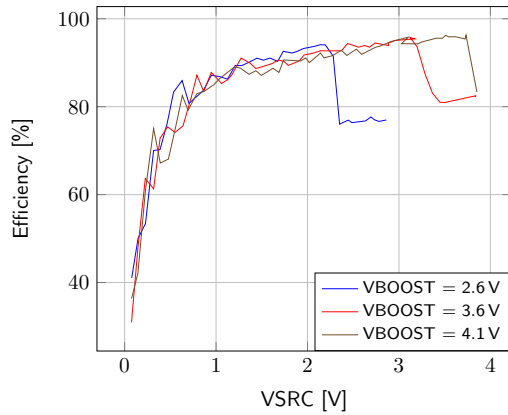

Figure 8: Boost efficiency for $ISRC = 1 \text{ mA}$
- **VBOOST**: Measure the current and the voltage. Repeat the measurement a copious number of times to be sure to capture the current peaks. Figure 8 has been obtained by averaging over 100 measurements configured with a 100 ms integration time.